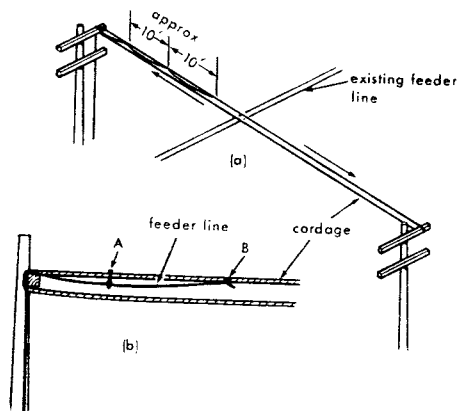

Fig 18.15 Erecting a Feeder Line over an Existing Line
The procedure to be adopted to prevent shorting of the line during the erection of one feeder line over another is illustrated in Fig 18.15 overleaf. The procedure is as follows:
- Secure one end of the new line to the cordage as indicated at point A in Fig 18.15.
- Feed the new line over the existing line by pulling on the cordage and attaching small supporting loops, as indicated at point B in Fig 18.15 at approximately 3 metre (10 ft) intervals. Care should be taken to avoid excessive sagging of the wire between the loops.